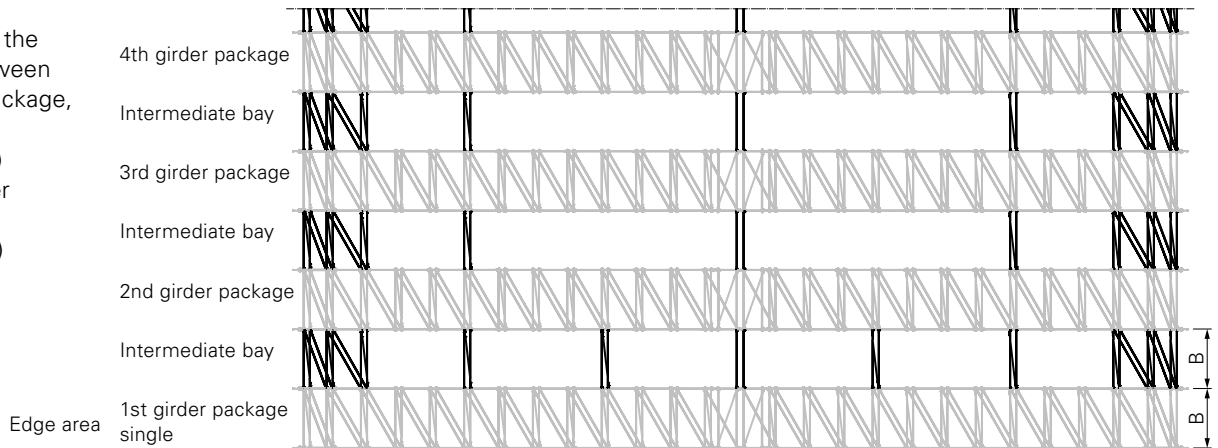

Fig. B1.04a
- 1st girder package, single (Fig. B1.04a)